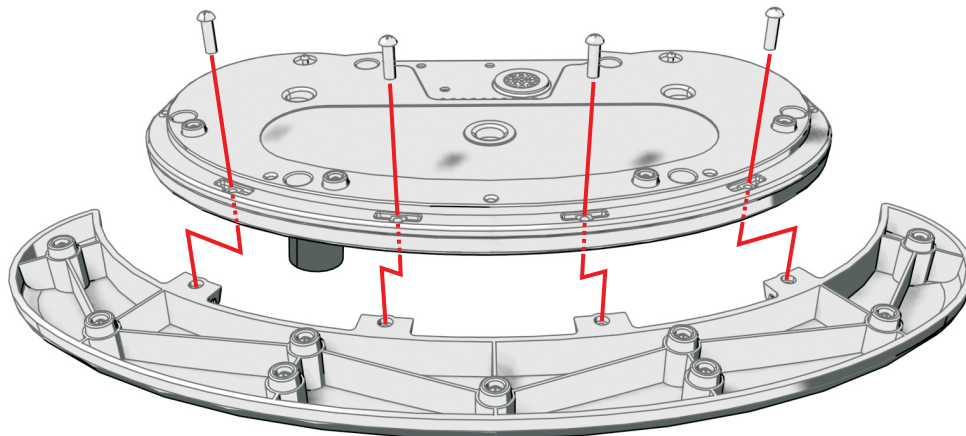

Figure 4. Installing the Wrist Support
2. If you want to use the wrist support, do the following (although the keyboard can be used without the wrist support). Refer to Figure 4. Turn the keyboard upside down. Attach the wrist support by first lining up the four tabs on the wrist support with the four matching screw receptacles on the base. Install the four supplied screws (Phillips pan head 4-40 x 0.312-inch). Turn the base face up.